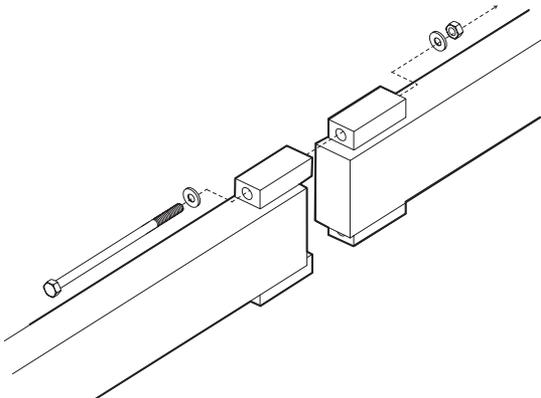

Figure 6-17. Connecting SAS Pieces
1. If the ski is in pieces, connect them together (Figure 6-17).